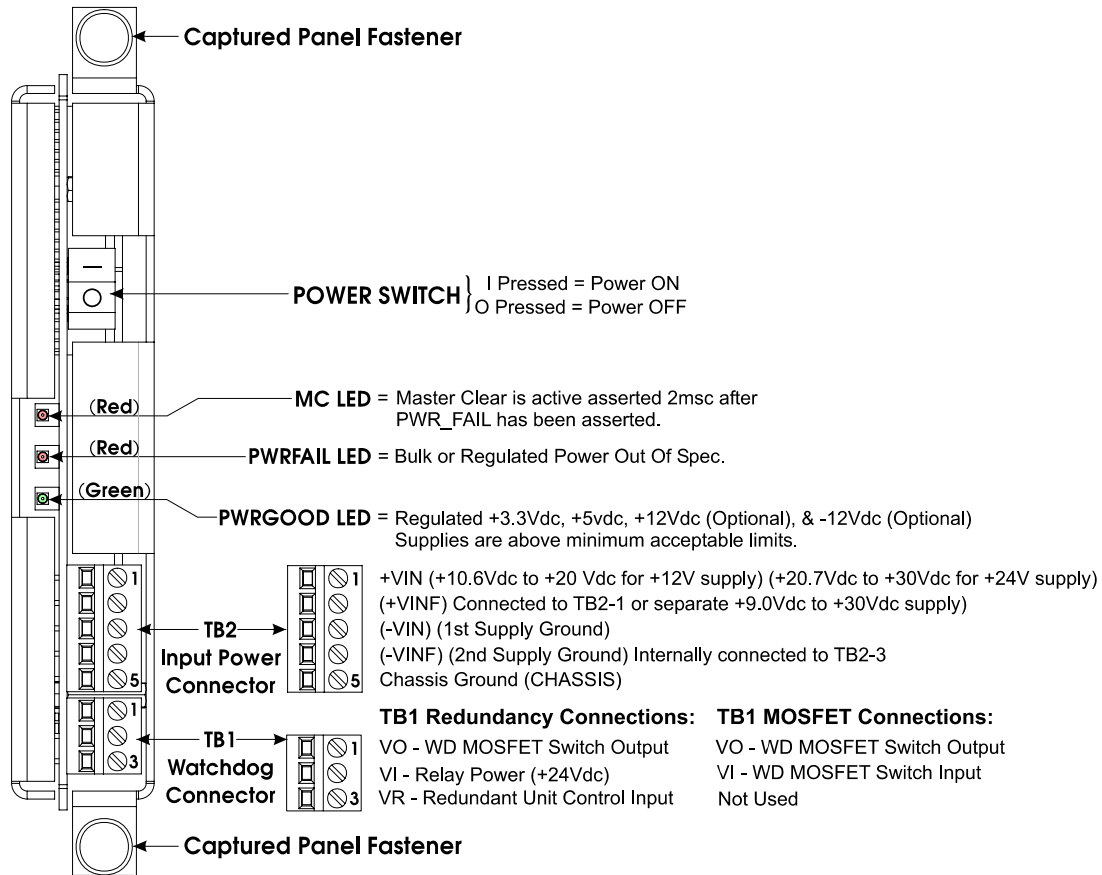

Figure 3-4 - Power Supply/Sequencer Module's TB1, TB2 & LED Designations
Only one bulk power source can be connected to a PSSM. Both PSSMs may share the same power source or they may be discretely powered (see Figure 3-4):
* = see Figure 3-4, ** = see Sections 2.4.2 & 3.4.4